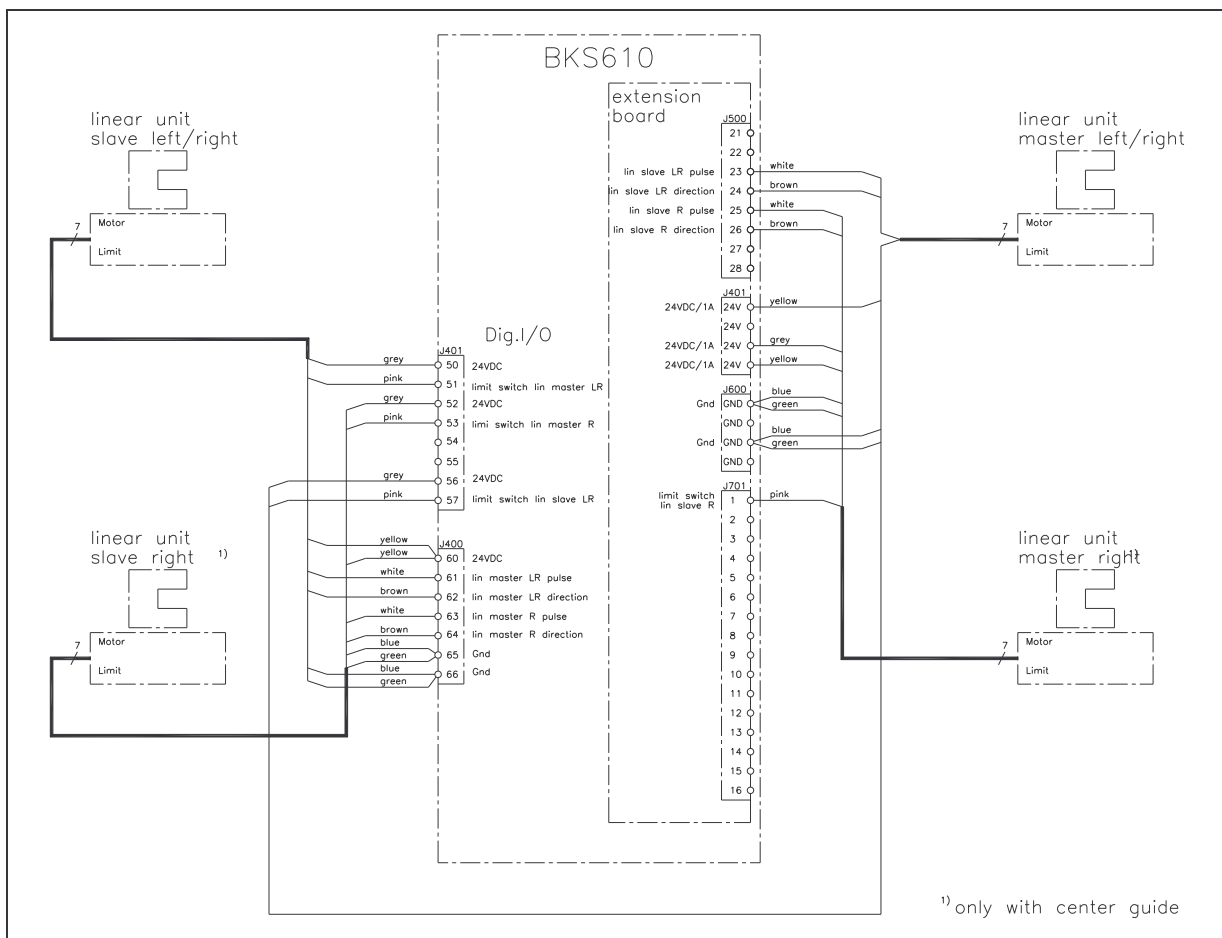

fig. 10: Wiring of the linear units
Wiring of the linear units is done according to wiring diagram (fig. 10). The electronic control unit detects automatically if 1 or 2 linear units are connected.
- *Manual*: The steering device can be moved manually in steps of 0.1mm to the left with the ↑ LEFT key and to the right with the ↓ RIGHT key. If the key is hold for more than 1s, the steering frame moves continuously in the respective direction. Using a double point control, either relay 1 or relay 2 is driven (ref. to fig. 10). If no FMS steering frame is used: The meaning of the control system can be inverted with parameter *Output config*.